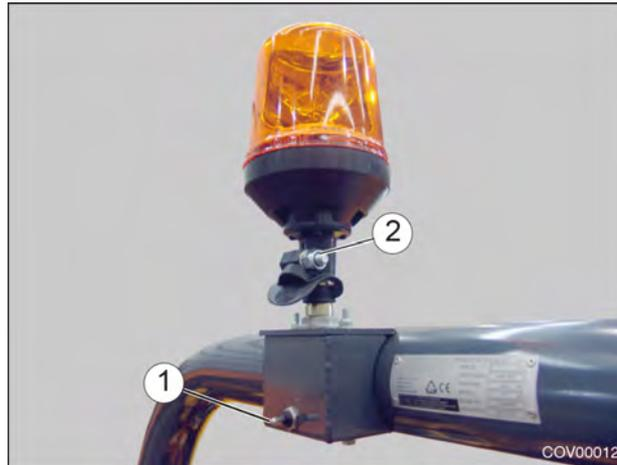

Figure 4.16 - Flashing Beacon
The Flashing Beacon, Figure 4.16, is provided to warn people of the dumpers presence. The beacon is fitted to the machines ROPS and is controlled by switch (1) located on the ROPS.